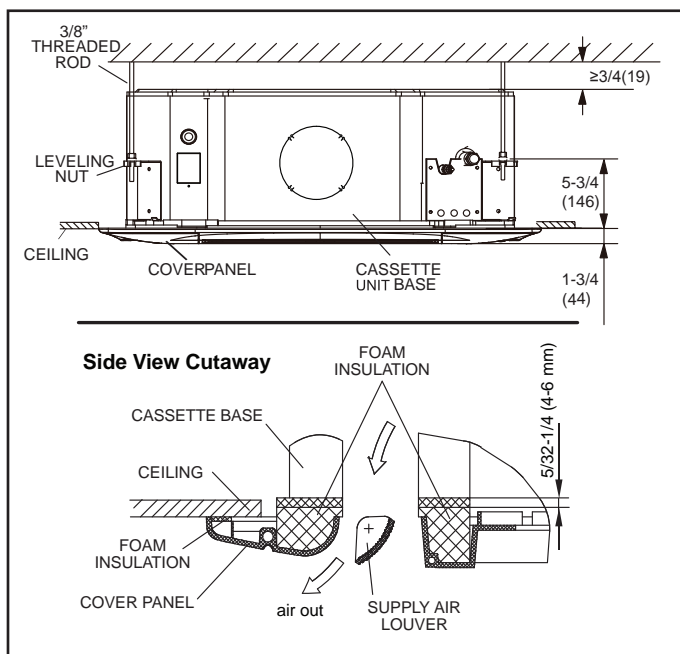

**Figure 22. Install Cover Panel**
5. Locate the cover panel hangers on the two corners with the louver swing motors. Place these two hangers on the corresponding hooks on the corners of the cassette base. See detail A in Figure 22. Then, place the other hangers from the other two corners over their corresponding hooks on the cassette base as shown in detail B in Figure 22.
9. Tighten the provided screws in the bracket in the cover panel immediately below each panel hanger. See detail C in Figure 22. Adjust the cover panel by turning slightly clockwise, if necessary, to make sure that the panel is properly aligned with the cassette base.